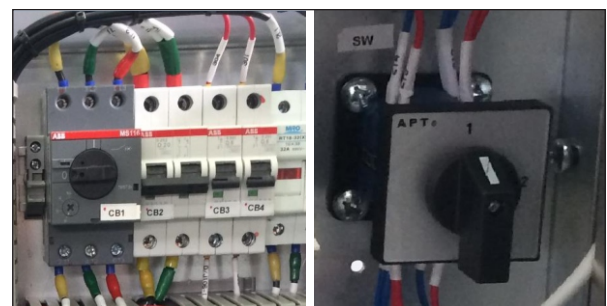

Fig.30 Circuit breaker (CB1 to CB4 and Switch)
3. Close the CB1, CB2, CB3, CB4, and set SW to position 2 (**Fig.30**)